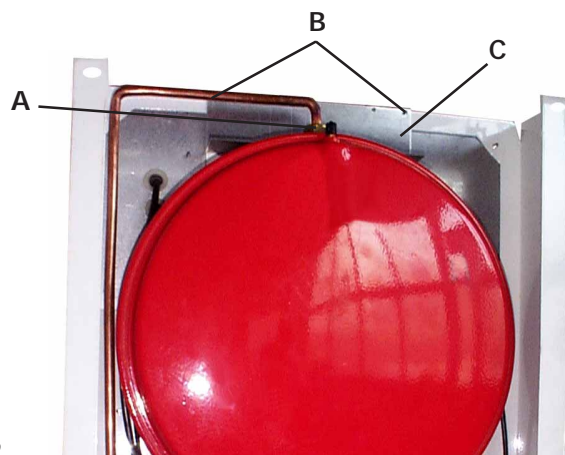

Fig. 26
7.04 Remove and re-pressurising of C.H. expansion vessel (fig. 26)